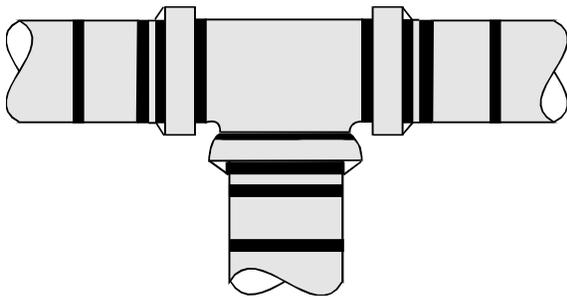

Figure 15
28. Pull the sleeve tight around the branch and fold neatly on the crown. Tape round the circumference at the end of the sleeve, overlapping onto the body of the tee. Make a second pass around the branch in front of the socket and complete the fixing of the sleeve by taping around the circumference of the pipe at the end of the sleeving (Figure 15).